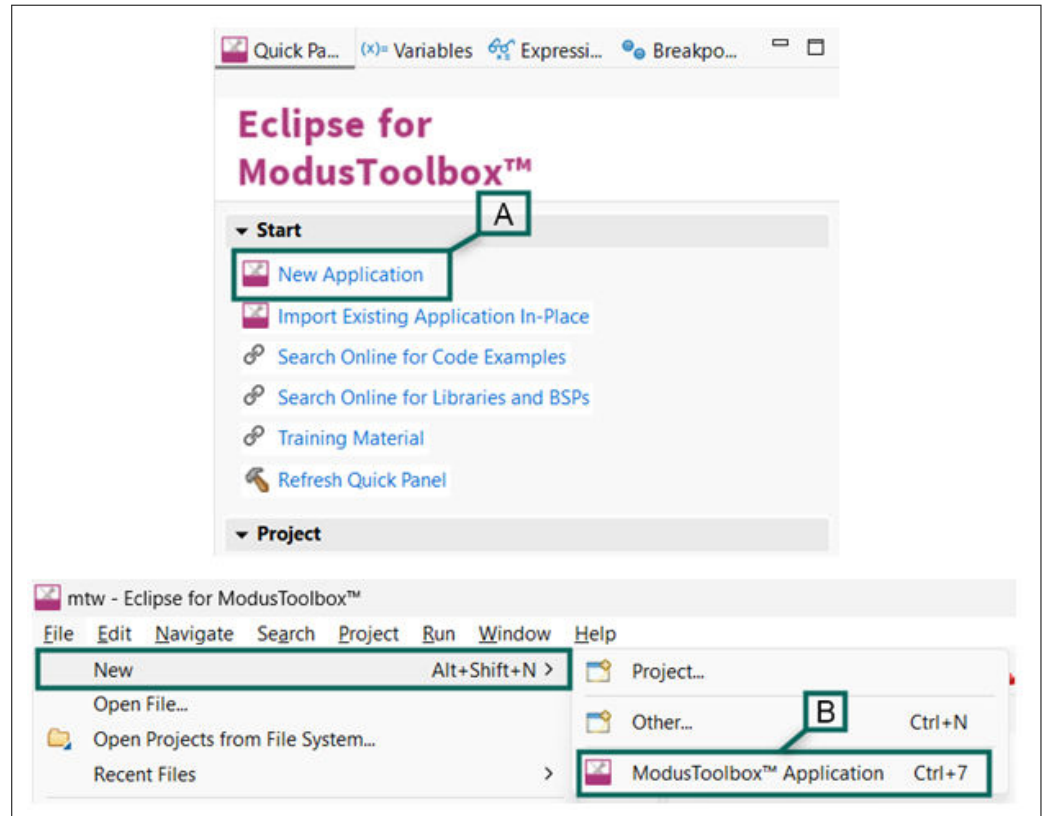

Figure 6 Create a New ModusToolbox™ Application
- Alternatively, you can choose **File > New > ModusToolbox™ Application** as Figure 6 shows. Displays the Eclipse IDE for ModusToolbox™ Application window